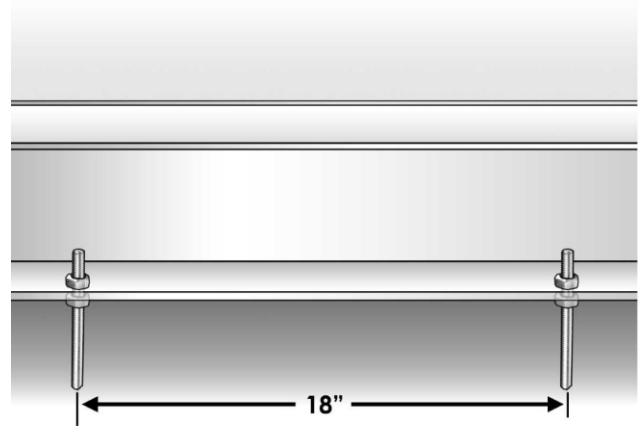

Fig. 3
3) Drive the leveling rods into the ground for stability during the pouring of the concrete. The weight of concrete in a single pour is great therefore additional fastening of the base with rods may be necessary. **Fig. 3**